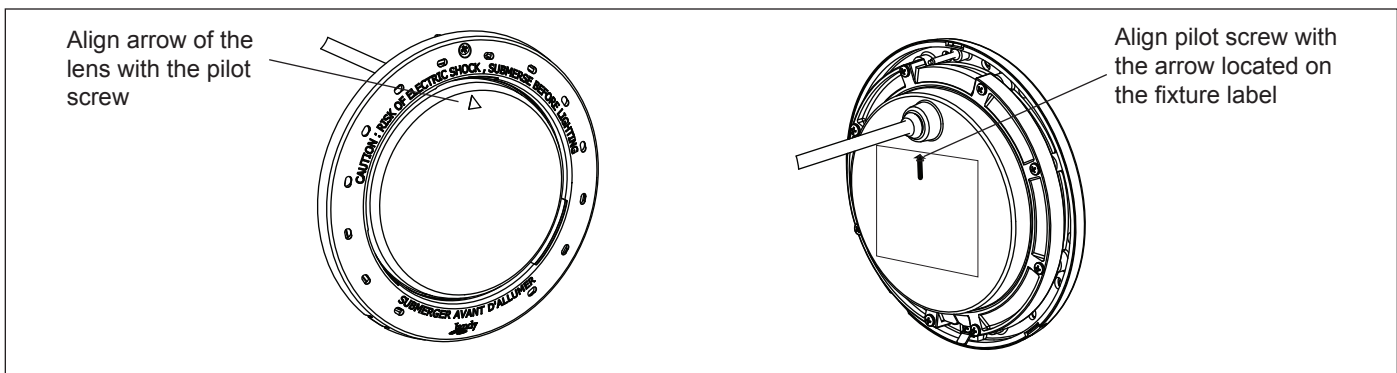

Figure 5. Alignment of the Lens, Face Ring, Housing and Clamps for Color Lights
- c. Position the lens and gasket on the fixture. Place the face ring assembly over the lens and align the pilot screw with the small arrow mark on the face of the lens. Note that the small arrow mark on the face of the lens and the pilot screw of the face ring must be aligned with the arrow located on fixture label that reads, “Arrow on this label must line up with the pilot screw on the Face Ring”. See Figure 5.